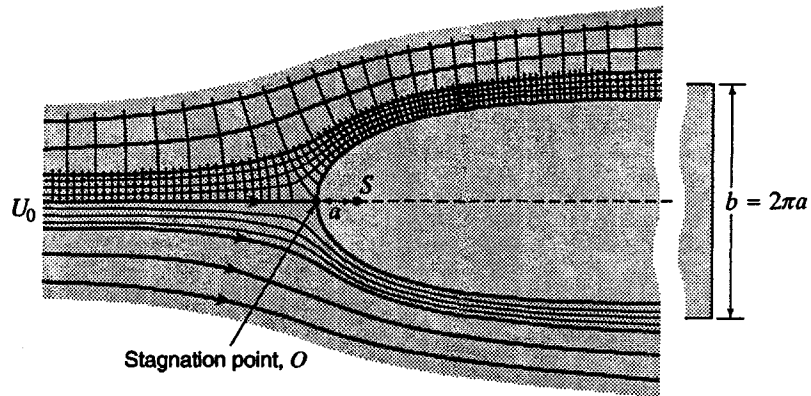

Figure 4.12
4.10.4 Given that U_0 in Fig. 4.12 is 4 m/s, find approximately (a) the maximum and (b) the minimum velocity on the body surface.